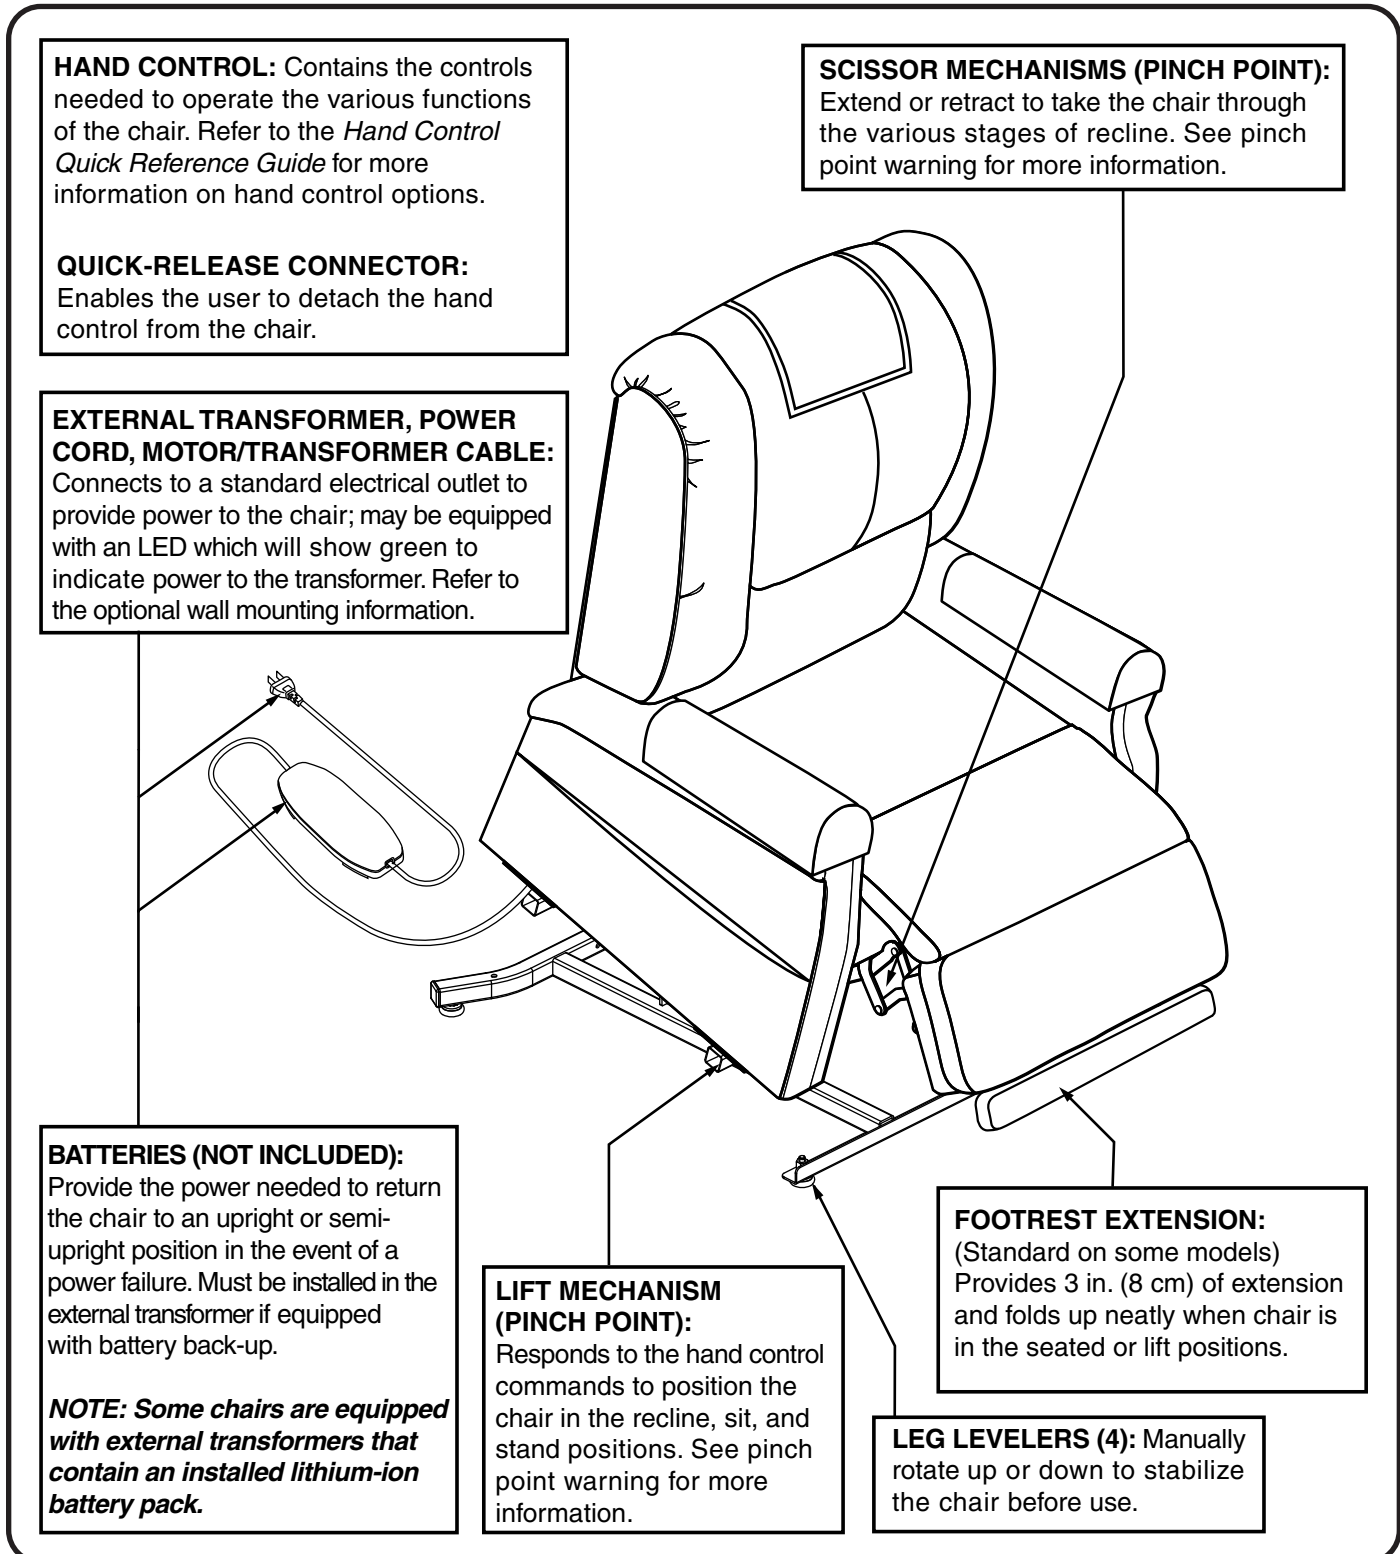

Figure 3.1 Chair Main Components
The scissor and lift mechanisms are labeled as pinch/crush point hazards on your chair. Keep clear of these areas and make sure the path of motion is unobstructed. See **figure 3.1** for pinch/crush point locations.
Chairs are equipped with several frame and electrical components. Typically, frame (or body) components include a removable back, chaise pad*, seat, footrest, leg levelers, a lift frame, and scissor mechanisms. The electrical components include the external transformer with connection cables, hand control, motor, and batteries‡ (not included). Refer to **figure 3.1** and note that the illustrations and options listed may not reflect the type of chair that you own.
2. Adjust the leg levelers to stabilize the chair (fig. 3.1).